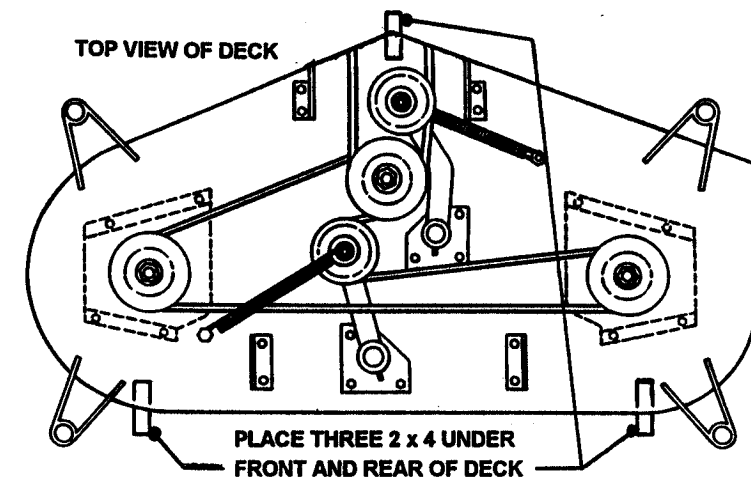

FIGURE 51
2. Rotate outside blades so tips are pointed to the sides of deck. See Figure 51. Measure the distance from blade tips to floor. If the measurement is within 1/8" from side-to-side, the deck levelness is satisfactory. If the difference from side-to-side is greater than 1/8", continue to next step for adjustment.
3. Place a 2 x 4 piece of wood under the front middle portion of deck. Place one 2 x 4 piece of wood under the rear of deck on both sides behind the two outside blades. See Figure 51.